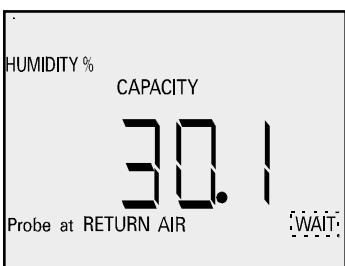

Figure 12
- 5.5.2** Align the probe in front, at the center of unit's inlet, (or ambient room temperature) so that the sensor's cover is facing AWAY FROM THE INLET grill and press ENTER. The LCD will display HUMIDITY %, CAPACITY, Probe at RETURN AIR and "WAIT" will be flashing (Fig.12) The VA500A will start measuring the unit's inlet air parameters while displaying a flashing "WAIT". After one minute of measuring, the unit will beep and the "WAIT" will stop flashing, signaling that the measurement has ended.